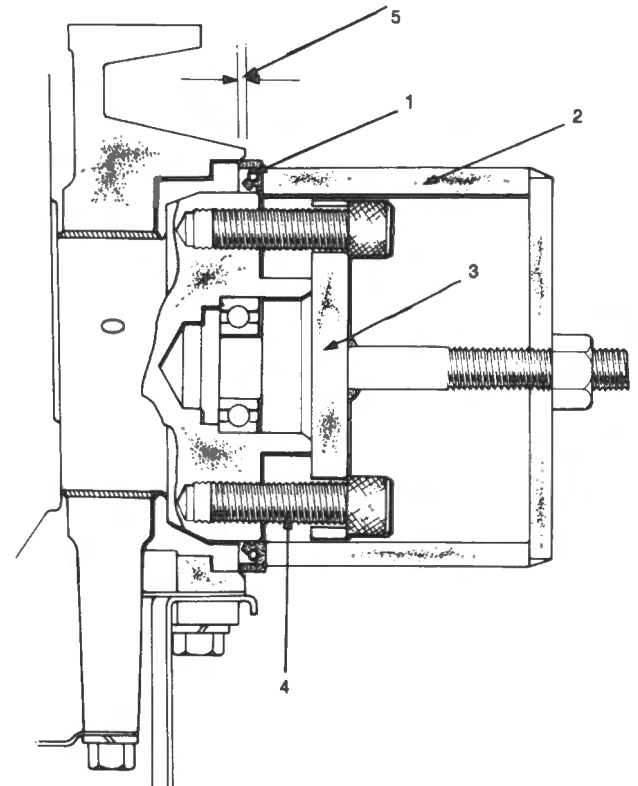

Fig. D-69
- 3 Secure the seal replacer adaptor 18GA044 to the end of the crankshaft as shown in Fig. D-69.